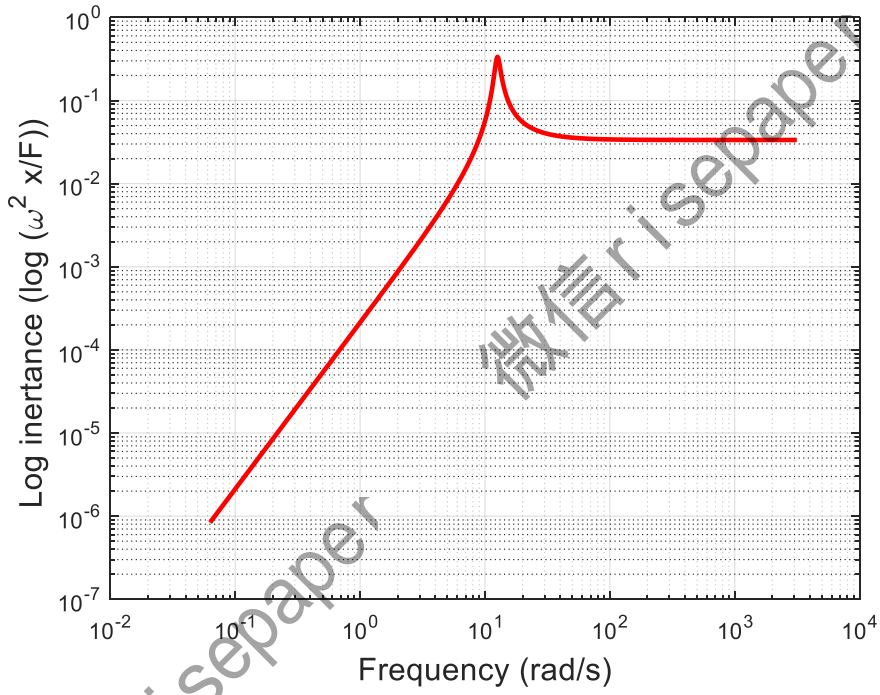

Figure Q2b
- Figure Q2b shows the measured FRF. Assuming the system behaves like a single degree of freedom, estimate the actual damping ratio ζ , the actual mass M and stiffness k of the system from the graph. Explain your working. [6%]